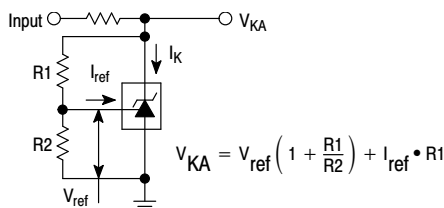

Figure 2. Test Circuit for $V_{KA} > V_{ref}$
- The dynamic impedance Z_{KA} is defined as $|Z_{KA}| = \frac{\Delta V_{KA}}{\Delta I_K}$ When the device is programmed with two external resistors, R1 and R2, (refer to Figure 2) the total dynamic impedance of the circuit is defined as: $|Z_{KA}'| \approx |Z_{KA}| \left(1 + \frac{R1}{R2} \right)$